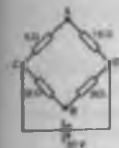

Figure 13.33
- (vii) To find the voltage across AB in Fig. 13.33: Since the 20 V supply is across the 5 Ω and 15 Ω resistors in series then, by voltage division, the voltage drop across AC,